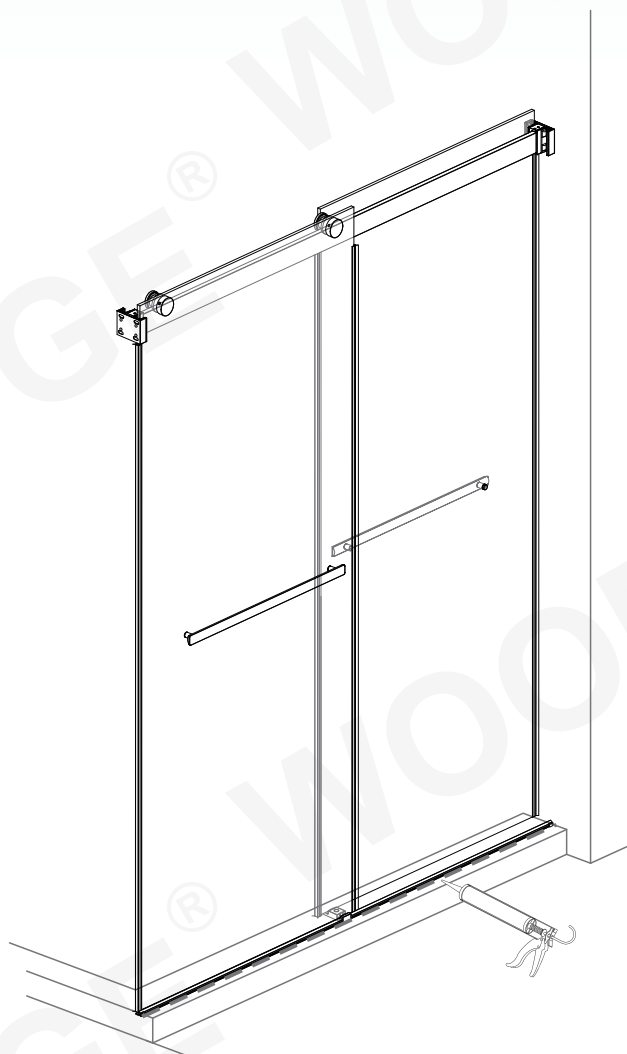

Fig 10
10. As shown in Fig 10, apply glass glue for sealing and waterproofing.